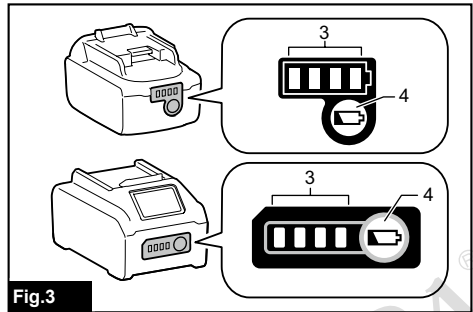

Fig.3
**Indicating the remaining battery capacity (Fig. 3)**